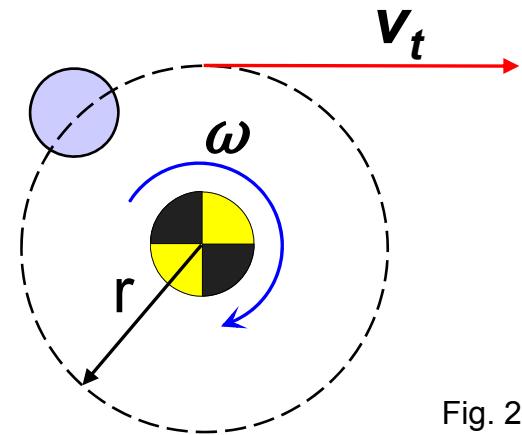

Fig. 2
- The driver is “orbiting” the center of mass of the vehicle (Fig. 2).